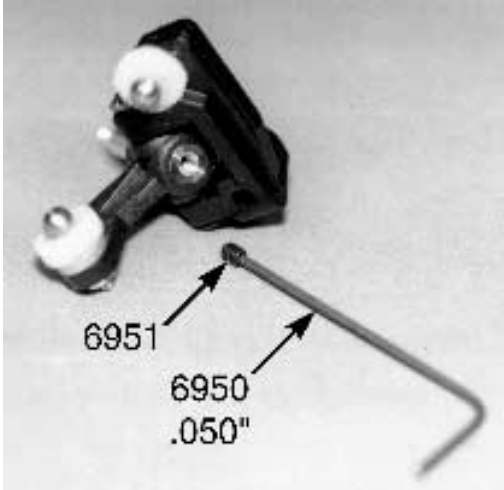

Fig. 10
□ **Fig. 10** (1) In bag #7-1 are two small #6951 4-40 x 1/8" socket set screws. (2) Locate your #6950 tool bag. (3) Take out the smallest Allen wrench (.050") and use it to install the two set screws into the #6221 aluminum front axles. **Note: Our Associated #6957 .050 screwdriver handle Allen wrench would help here.** (4) Rotate the steering blocks in the block carriers so that you can see the threaded hole on the back side of the #6221 aluminum front axle. Slide one of the